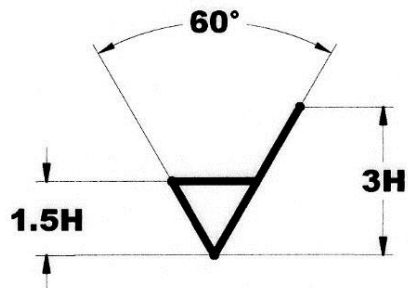

Figure 3. Surface Texture Symbol.
3. The check mark symbol is the preferred symbol by ANSI. See Figure 3.